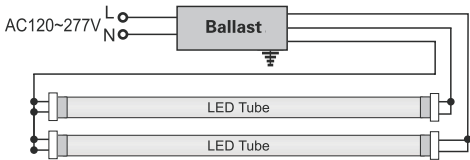

FIGURE 1
4. Cut the wires shown by the "X" in Figure 1.